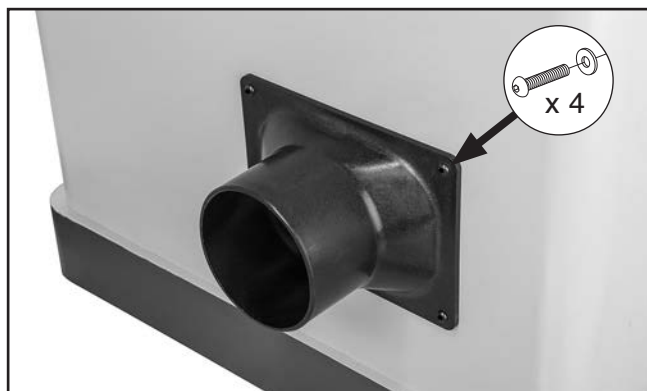

Figure 30. Dust port installed.
30. Secure rear access panel with (6) M5-.8 x 16 button head cap screws.
31. Mount dust port with (4) M5-.8 x 10 button head cap screws and 5mm flat washers (see **Figure 30**).